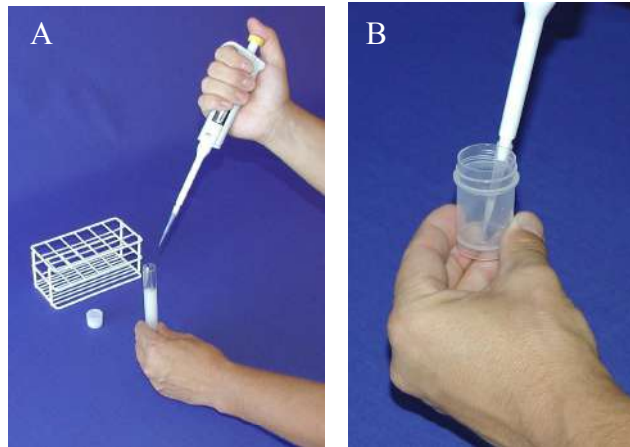

Figure 1. (A) Pipetting of 50 µl of sample and (B) transferring sample to center area of bottom of sample cup
2. Check that the Dilution Factor (DF) is 201
3. Aspirate a representative volume of **50 µl** of the ejaculate using the automatic pipette mounted with a new pipette tip. Transfer the sample to the center area of the bottom of a 20 ml sample cup. (*cf. figure 1*)